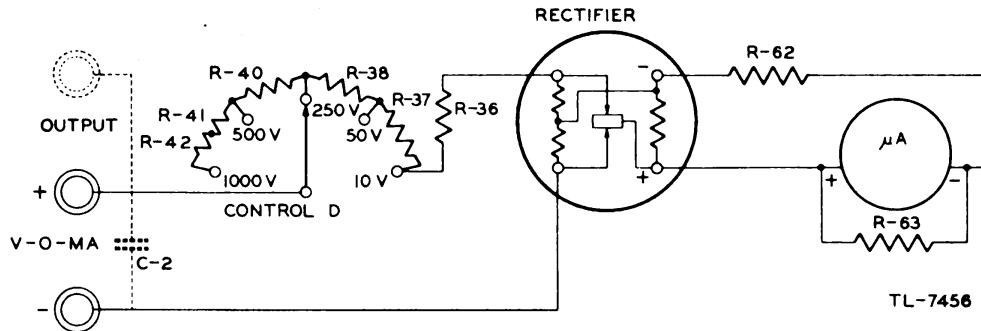

FIG. 15. MODEL 104 COMBINATION TESTER, SIMPLIFIED A-F AND A-C VOLTMETER CIRCUIT
b. *Combination Tester as A-C Voltmeter* (fig. 15). When Control D is set at any a-c voltage range the proper multiplier resistors are put in series with the rectifier. The type-H rectifier changes the alternating current to direct current so the d-c meter (M-3) can indicate the voltage applied to the rectifier through the multiplier resistors.
f. *Combination Tester as A-F Output Meter*. The various parts function the same as in the a-c voltage tests. However, for a-f voltage measurements, capacitor (C-2) is placed in series with the OUTPUT jack as shown by the dotted lines in figure 15.